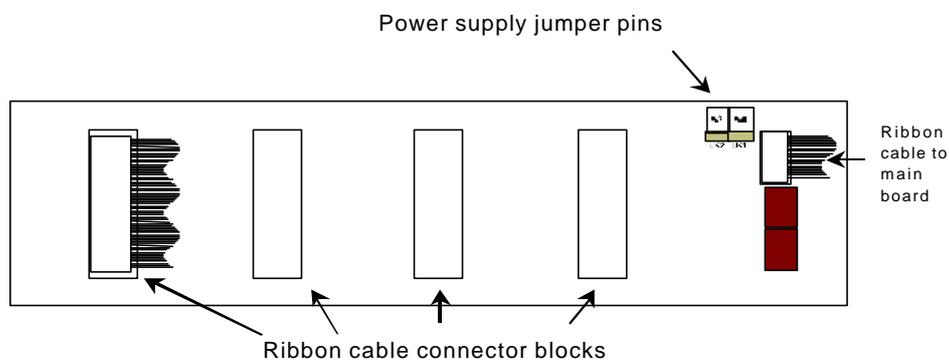

Figure 6 - Rear of terminal panel
- **Ribbon from terminal group 1-15:** For the tutorial, a single ribbon cable must be fitted between the connector marked '3-wire/differential' on the LAC1 card and the terminal group 1-15 on the rear of the terminal panel. No other ribbon cables should be connected to the LAC1, but leave ribbons connected to other cards. The rear of the terminal panel is illustrated in Figure 6 - Rear of terminal panel. Take care when moving ribbon cables not to apply excessive force to the latches on the connectors. They are easily broken.
The remaining channels, 1 to 60, are arranged in four terminal groups, corresponding to channels 1-15, 16-30, 31-45, 46-60. On the rear of the terminal panel, a ribbon cable connector is provided for each terminal group (see Figure 6 - Rear of terminal panel), and one or more terminal groups in your logger will be connected by a ribbon cable to an input card on the input card stack. Only the channels connected to an input card are available to the logger, and the type of input card it is connected to determines the capability of each channel. For example, channels connected to a LAC1 analogue input card are suitable for making analogue measurements, whereas channels connected to a DLC1 counter card are suitable for counting and frequency measurements from digital sensors.
You can connect the logger's power supply to relay channels 63 and 64 by fitting jumpers (supplied fitted as shipped) to jumper pins (Figure 6 - Rear of terminal panel). See also "Relay channels" in the on-line Help and in Chapter 4 of the Hardware Reference.